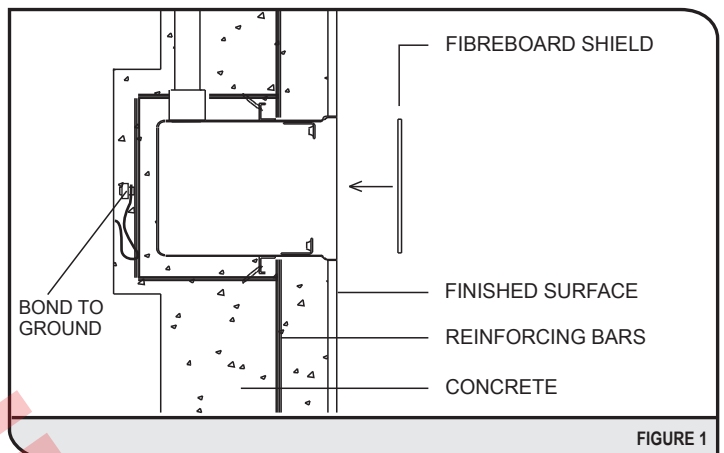

FIGURE 1
- Locate niche in pool and wire to reinforcing bars. Ensure a good connection between earth stud on the back of the fixture and the reinforcing bars. The conduit entry should be at top of niche. Although some variation is accommodated by the outer cover system on the fixture, care should be taken to position the niche level and to allow for pool finishing materials (fig 1). Connect conduit to conduit entry with suitable conduit sealant. Run the conduit above water level, to site of 12 V AC transformer.